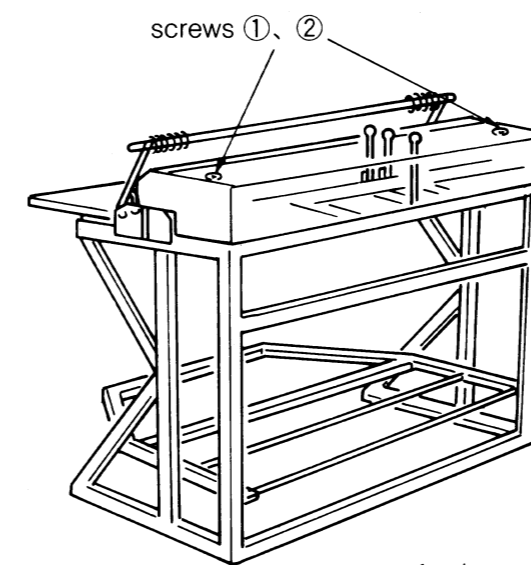

fig 1
- 10 Install the cover that was removed (cf fig 1)